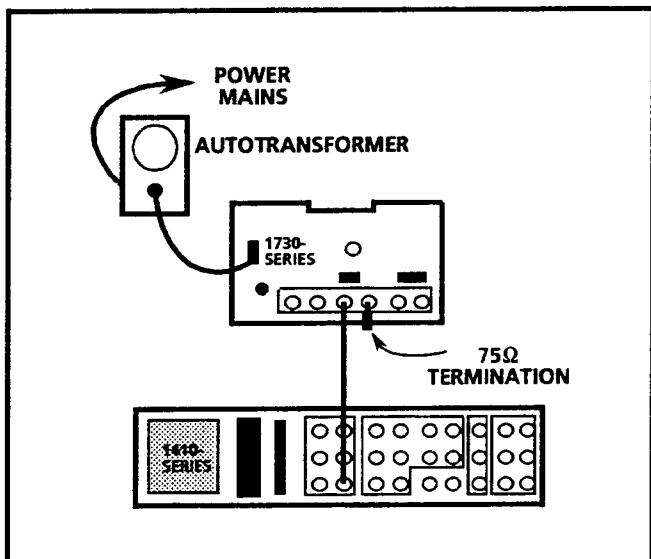

Fig. 5-13. Initial equipment hook-up for the Adjustment Procedure.
The Front-Panel Presets and Signal Connections for initiating the Adjustment Procedure are shown in Fig. 5-13. The correct settings of the front-panel controls to start this procedure are shown in Table 5-2.
- b. Connect the multiburst signal to the CH-B INPUT and terminate the opposite side of the loop-through with a  $75\Omega$  termination. See Fig. 5-13.